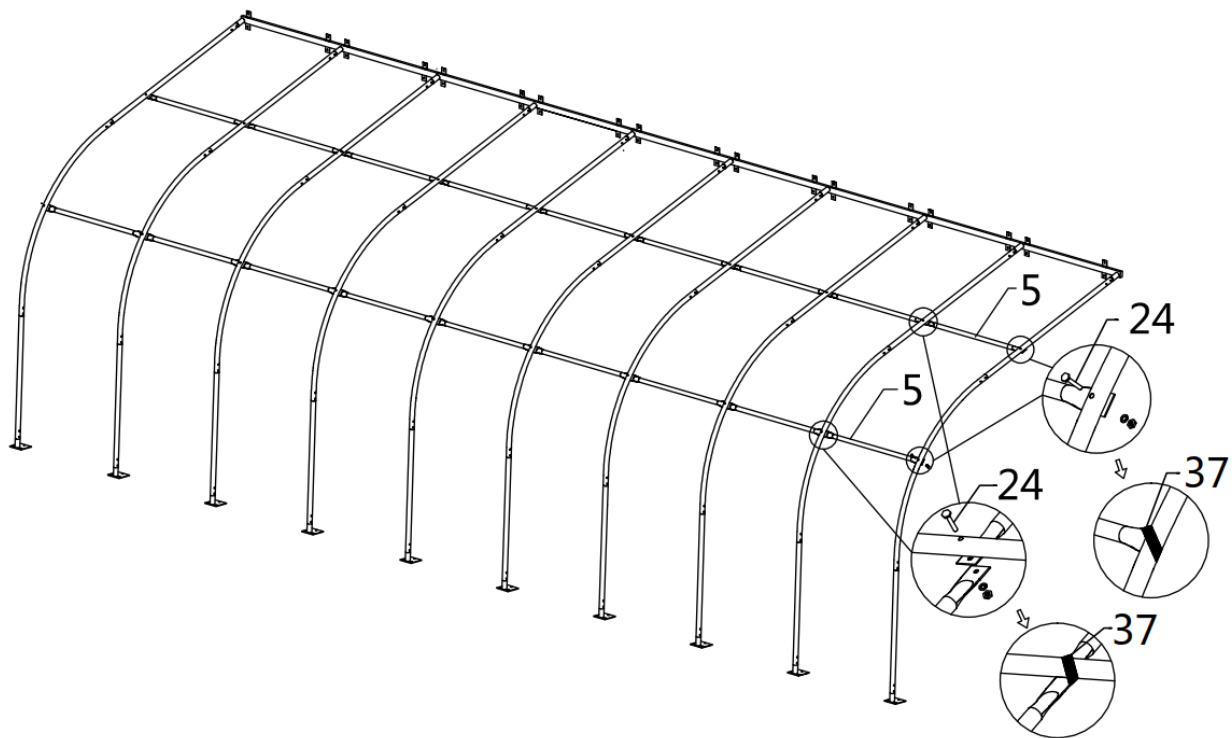

Figure 5
- Install roof purlins to secure all trusses and seal bolts with adhesive tape (refer to figure 5)
- (4) Adhesive tape (#37)